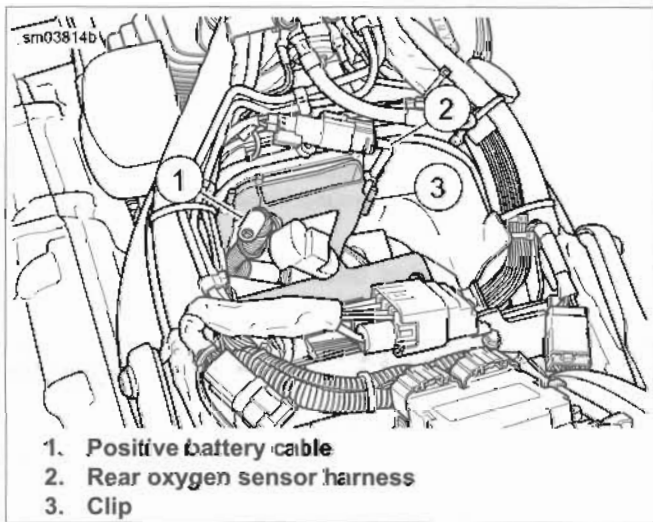

Figure 1-52. Battery Caddy Wire Routing
- See Figure 1-52. Install positive battery cable (1) into clip in caddy. Place an S-shaped bend in the positive battery cable at the starter end of the cable. This properly positions the terminal end for battery installation.
- Route rear O2 sensor harness (2) through clip (3).